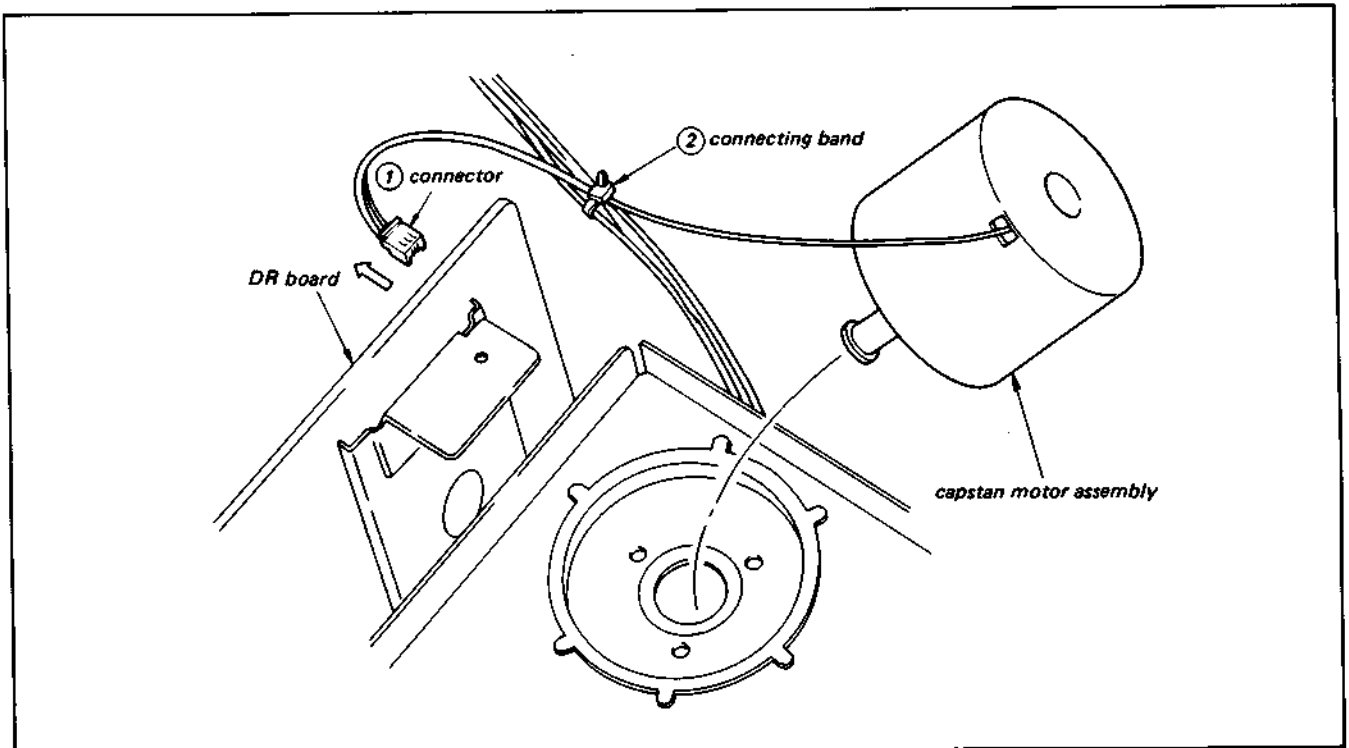

Fig. 3-7. Replacement of capstan DC motor (2)
4. As shown in Fig. 3-7, pull out connector ① from the DR board, and remove connecting band ②.